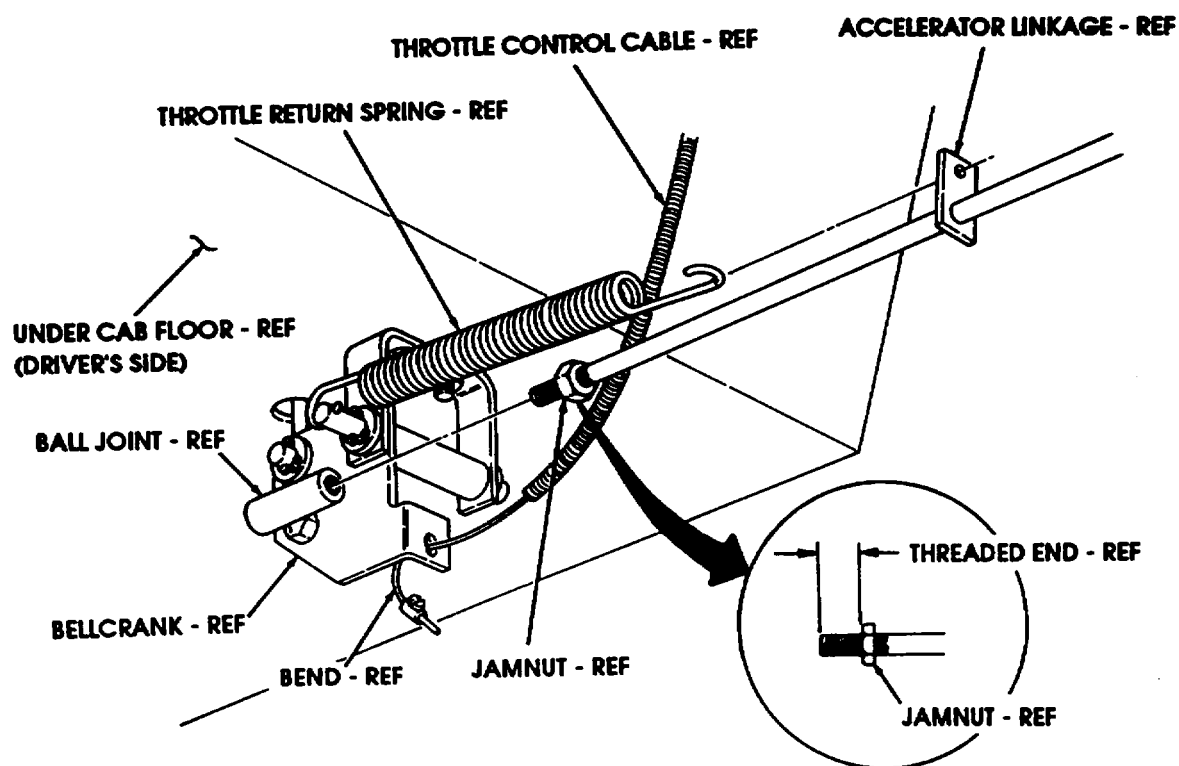

FIGURE 2
- (5) Disconnect throttle return spring from accelerator linkage as shown in figure 2.
- (6) Loosen jamnut and remove accelerator linkage from ball joint on bellcrank as shown in figure 2.
- (7) Measure distance from jamnut to threaded end of accelerator linkage as shown in figure 2.
- (11) Bend end of throttle control cable away from bellcrank as shown in figure 2.
- (12) Install accelerator linkage into ball joint on bellcrank as shown in figure 2.
- (13) Connect throttle return spring on accelerator linkage as shown in figure 2.